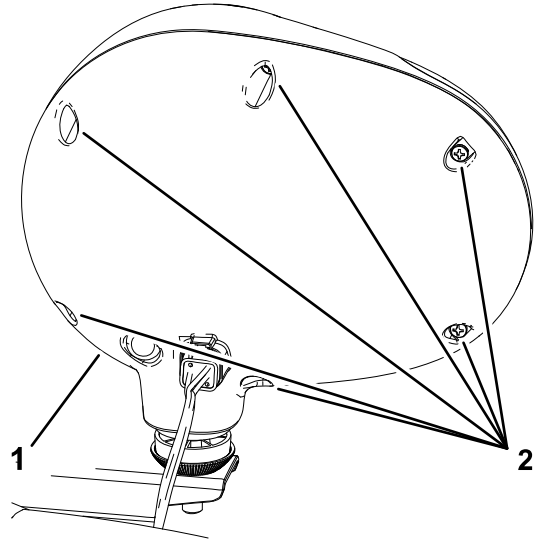

Figure 73
2. Remove the 6 screws securing the worklight (Figure 73).
3. Remove the worklight cover (Figure 73).